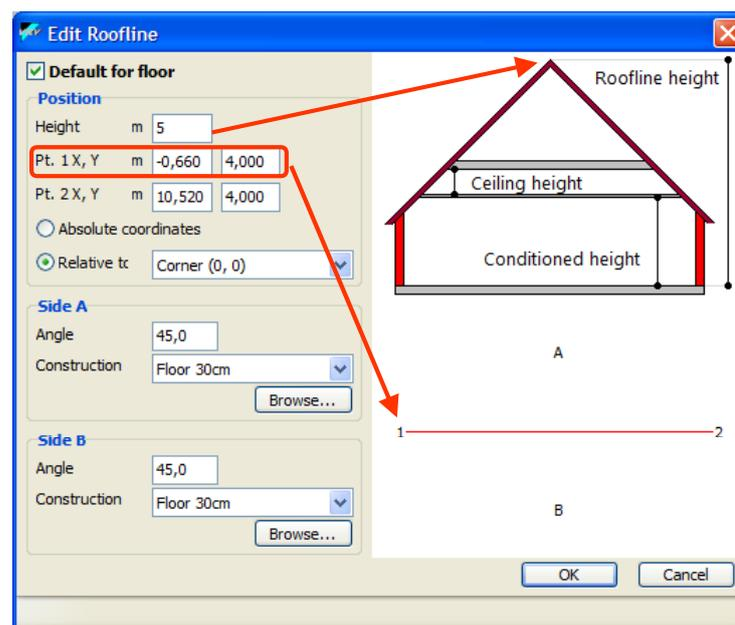

Figure 165: The roofline edit window
A roofline defines the top line of a slanted roof. The slanted sides of the roof may cut a part of the walls of the top floor. Before explaining how to draw a roofline, Figure 165 shows the edit window of a roofline, containing a schematic overview of its parameters:
- Depending on the slope angle on both sides and the roof height, the roof cuts the vertical walls of the floor, as shown in the small picture in Figure 165. A slope may vary from 0^0 (a flat roof) up to 65^0 (a very steep roof).
has no influence on the result, only its angle. As the roofline edit window has its "**Default for floor**" checkmark checked in Figure 165, VRVPro applies the roof to all rooms on that floor.